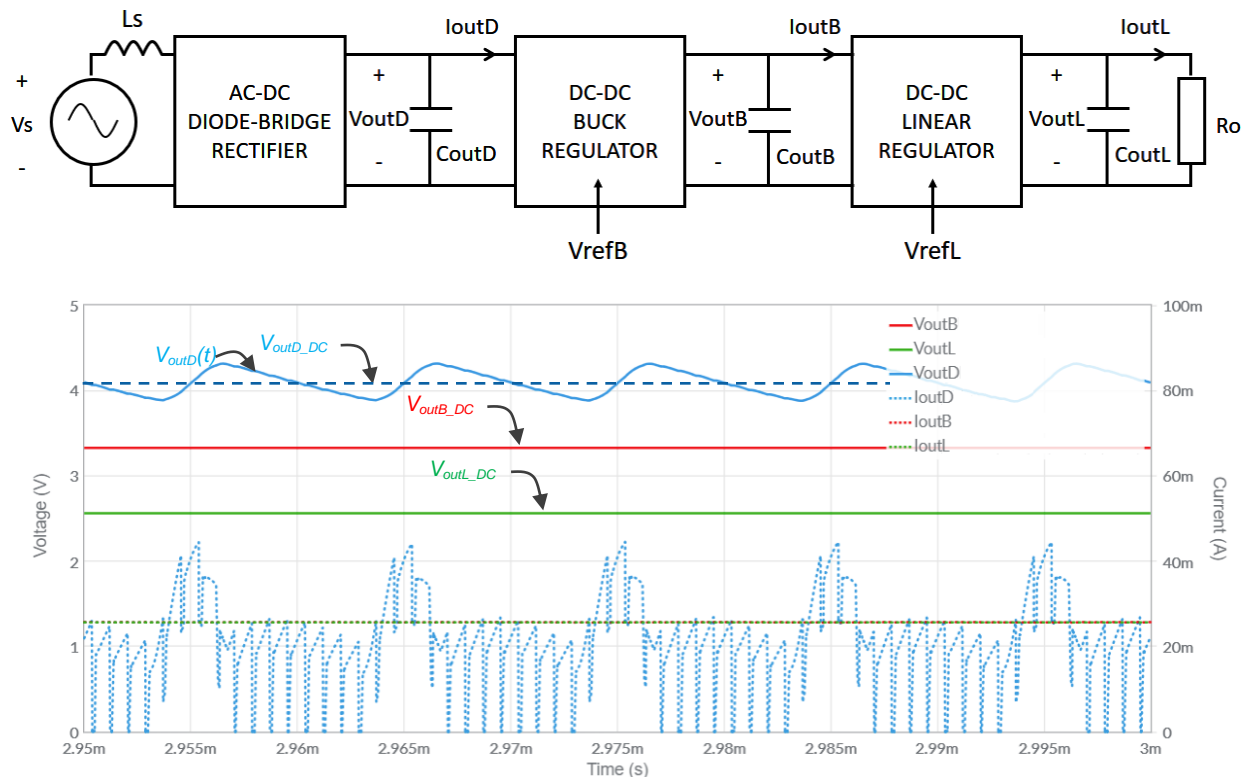

Figure 1-2. Diode-Bridge AC-DC Rectifier with DC-DC Buck Regulator and DC-DC Linear Post-Regulator
Figure 1-2 shows the typical configuration of an AC-DC diode-bridge rectifier, taking energy from an AC voltage source $V_s(t) = V_s \sin(2\pi f_s t)$ and supplying a DC load resistor R_o through a DC-DC buck regulator and a DC-DC linear post regulator.
- the **rectifier output current** ($IoutD$ blue dashed trace) has a 1.2MHz AC ripple component plus a 100kHz bumping AC ripple (as shown in Figure 1-2);